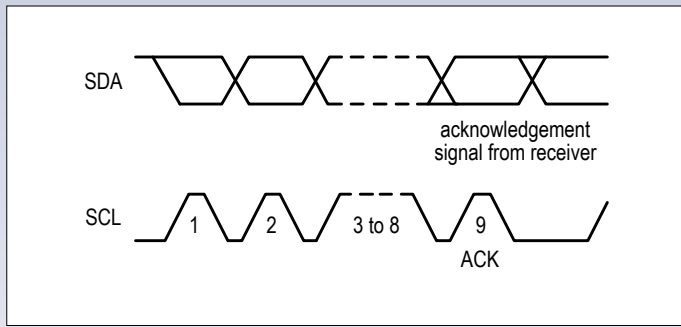

Figure 6. Sending the data bits.
3. After the address byte the master generates the SCL clock signal to transfer data, one byte at a time and with each byte transmitted most-significant bit first (see **Figure 6**). If the read/write bit in the address byte was 1, then the master expects the slave to place its data bits on the SDA line at the appropriate moment, before it generates the clock signal on the SCL line. If the read/write bit was a 0, however, the master itself places the data bits on the SDA line as well as generating the clock pulses. Each byte, including the byte comprising the address and the read/write bit, must be acknowledged by the receiver during the ninth bit time. Here a low level indicates a positive acknowledgement (ACK), while a high level is a negative acknowledgement (NACK). A NACK does not necessarily mean that something has gone wrong with the transmission: it is also used simply to indicate that the byte in question was the last one in the message. In the case of the address byte, a NACK means that no slave recognized the combination of address and read/write bit as valid.